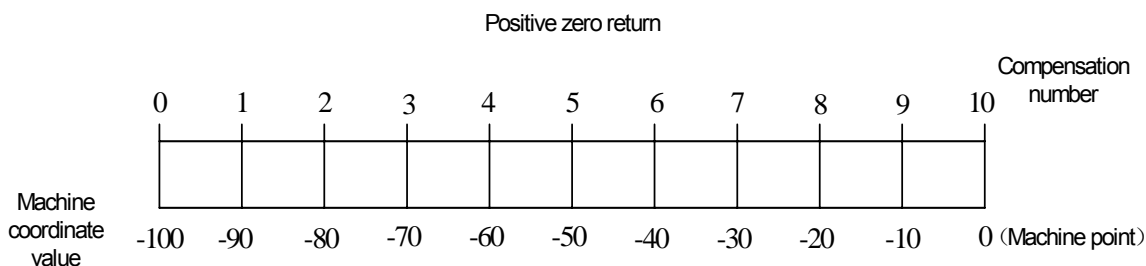

Fig. 4-7-1
- ① Big or small of each compensation point's pitch compensation number corresponds to big or small of the machine coordinate value, i.e., the bigger the compensation of the machine coordinate value is, the bigger the corresponding compensation number.
- ② When the pitch error compensation is set in some area of the machine, the compensation number of the machine coordinate system' least compensation point in the area is 0, the reference point's pitch compensation number is confirmed by the position relationship between the reference point and No. 0 compensation point.
- ③ Example: assume that the machine stroke is 100mm, the pitch error' compensation interval is 10mm, and the compensation number is 1-10. So the reference point's pitch compensation number judges below:
- A. The machine's zero return direction is positive. The machine coordinate system's least value in the area is -100, the compensation number of -100 point is No. 0, the position relationship between the reference point and No. 0 compensation point is No. 0, which is shown in Fig. 4-7-1: